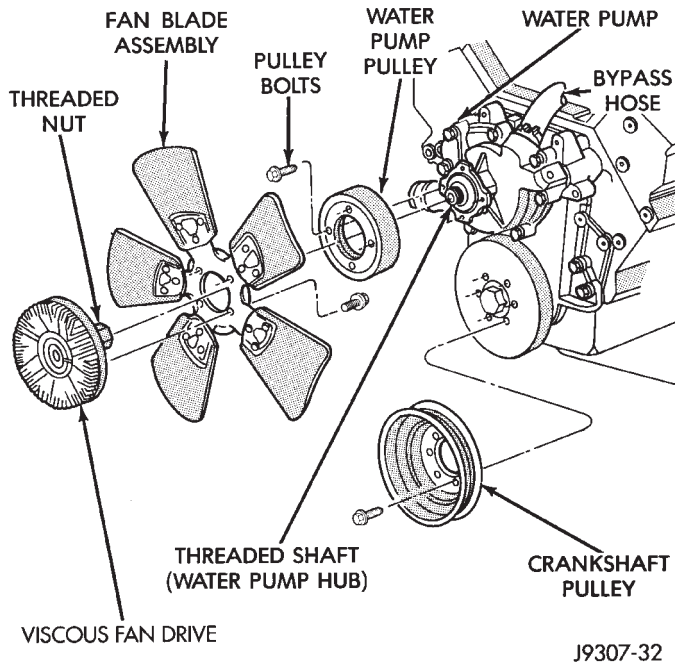

Fig. 47 Fan Blade/Viscous Fan Drive—3.9L/5.2L/5.9L Engine
(1) Disconnect battery negative cable.
(2) The thermal viscous fan drive/fan blade assembly is attached (threaded) to water pump hub shaft (Fig. 47). Remove fan blade/viscous fan drive assembly from water pump by turning mounting nut counterclockwise as viewed from front. Threads on viscous fan drive are **RIGHT HAND**. A Snap-On 36 MM Fan Wrench (number SP346 from Snap-On Cummins Diesel Tool Set number 2017DSP) can be used. Place a bar or screwdriver between water pump pulley bolts (Fig. 47) to prevent pulley from rotating.
(3) Do not attempt to remove fan/viscous fan drive assembly from vehicle at this time.
(4) Do not unbolt fan blade assembly (Fig. 47) from viscous fan drive at this time.
(5) Remove fan shroud attaching hardware (two bolts at bottom-two clips at top).
(6) Remove fan shroud and fan blade/viscous fan drive assembly as a complete unit from vehicle.
(7) After removing fan blade/viscous fan drive assembly, **do not** place viscous fan drive in horizontal position. If stored horizontally, silicone fluid in the viscous fan drive could drain into its bearing assembly and contaminate lubricant.
CAUTION: Do not remove water pump pulley-to-water pump bolts (Fig. 47). This pulley is under spring tension.
(8) Remove four bolts securing fan blade assembly to viscous fan drive (Fig. 47).
- (1) Install fan blade assembly to viscous fan drive. Tighten bolts (Fig. 47) to 23 N·m (17 ft. lbs.) torque.
- (2) Position fan shroud and fan blade/viscous fan drive assembly to vehicle as a complete unit.
- (3) Install fan shroud.
- (4) Install fan blade/viscous fan drive assembly to water pump shaft (Fig. 47) and tighten bolts to 27 N·m (20 ft. lbs.).
- (5) Connect battery negative cable.